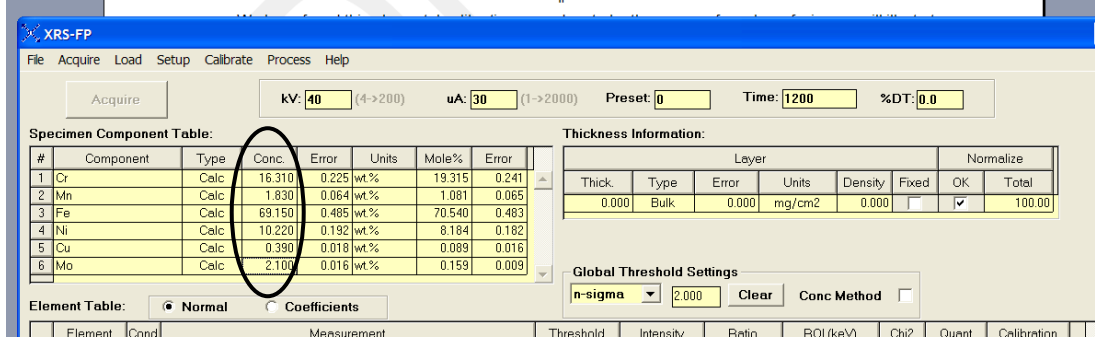

Figure 1. Screen capture showing the data entered for the standard. The concentrations, reported with the sample are entered in the elements shown in the oval.
3. Enter the composition for the standard in the "Component Table". Also enter data into the "Thickness Table". Figure 1 shows these entries for the example. The composition values came from data supplied with the standard. The standard used was a thick, bulk sample. Ensure the Normalize option is checked, and the Total set to 100.0%.